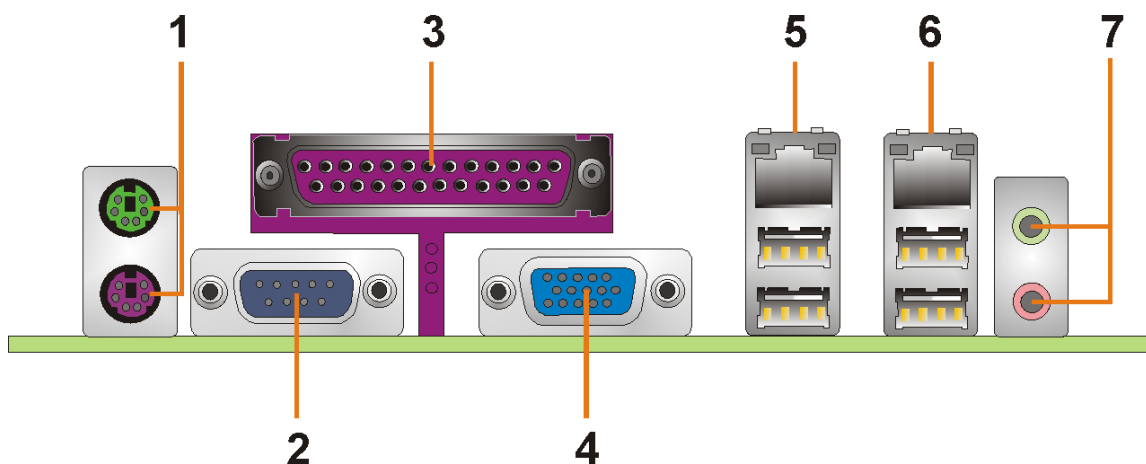

Figure 3-18: KINO-LX External Peripheral Interface Connector Panel
Figure 3-18 shows the KINO-LX external peripheral interface connector panel. The peripheral connectors are connected to external devices when the KINO-LX is installed in a chassis. The peripheral connectors on the panel are:
- CN Location: See **Figure 3-18** (labeled number 1)
CN Location: See **Figure 3-18** (labeled number 2)
CN Location: See **Figure 3-18** (labeled number 3)
- CN Location: See **Figure 3-18** (labeled number 4)
CN Location:	See Figure 3-18 (labeled number 5 and 6)
CN Location: See **Figure 3-18** (labeled number 5 and 6)